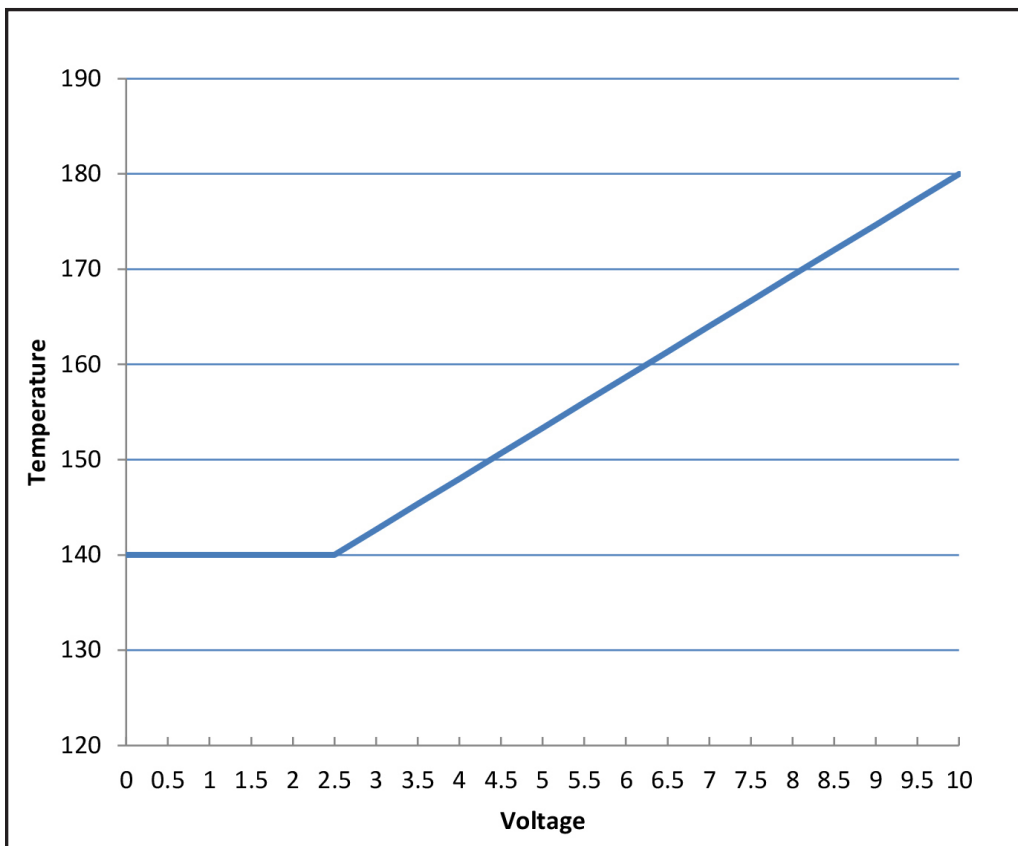

Figure 47. External Setp Point Example
- Using the default values for Boiler Max Set Point (180°F), Boiler Min Set Point (140°F), Demand Minimum (2.5VDC), Demand Maximum (10.0VDC), the unit will linearize the set point, as shown in **Figure 47**.